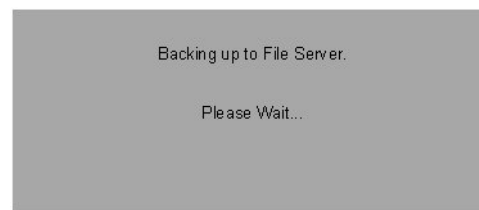

Figure 14.11 Hard Drive Backing Up to the File Server Message
- 6 The message shown in Figure 14.11 will appear while data is being backed up to the server.